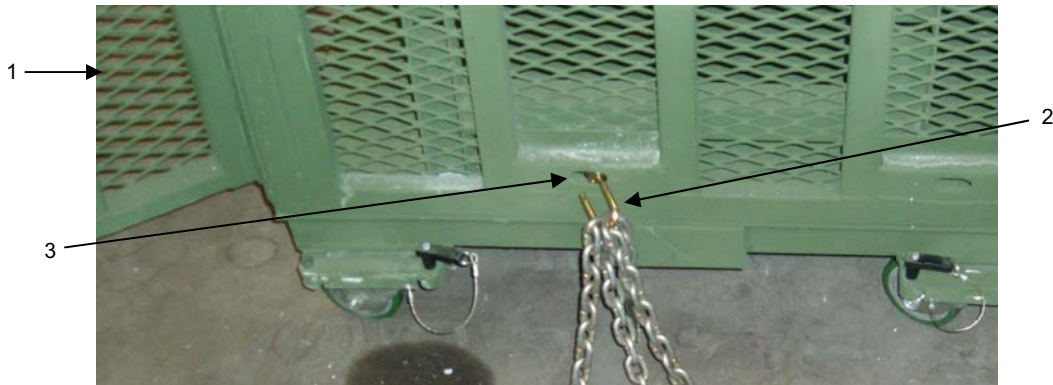

Figure 3-26. Placing the Cage in a Stationary Position.
4. Open the cage door (Figure 3-26, Item 1).
5. Insert padlock shank (Figure 3-26, Item 2) from inside the cage and through the attachment plate hole (Figure 3-26, Item 3).
6. Place the link from one end of the chain onto the padlock shank (Figure 3-26, Item 2) and wrap the remainder of the chain around a fixed object or structure.
7. Insert the opposite end of the chain onto the padlock shank (Figure 3-26, Item 2).